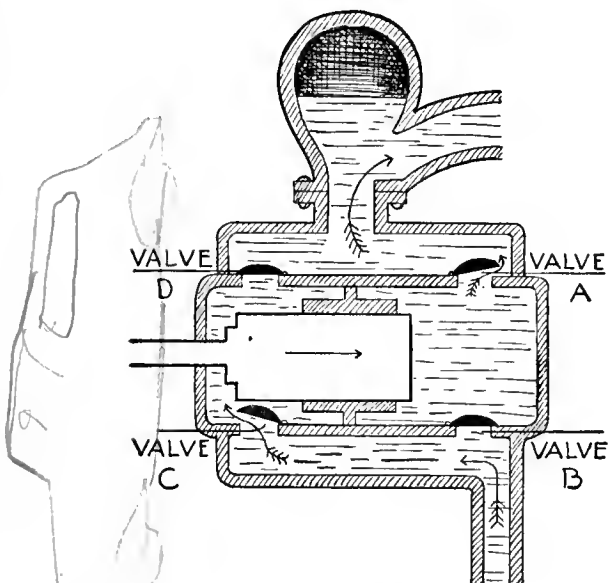

FIG. 25
14. Figure 25 is the diagram of a double acting force pump; from your knowledge of force pumps explain how this one operates and state its advantages over the common force pump.